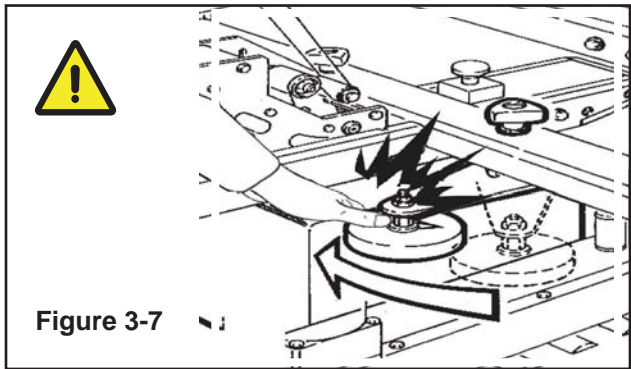

Figure 3-7
**Important!** Side flap compression rollers. Never keep hands on the box while it is driven by the belts (**Figure 3-7**).